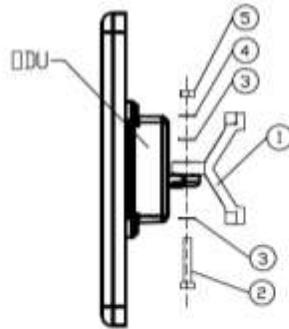

Figure B-2. Small Clamp
- One small clamp (*Figure B-2*)